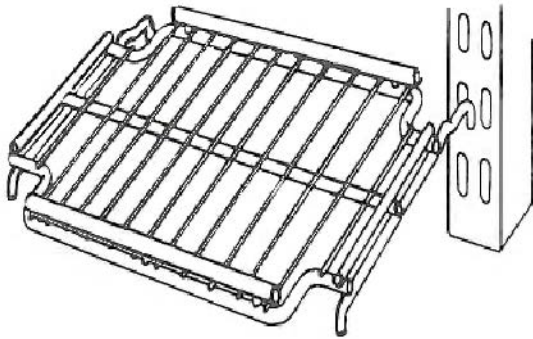
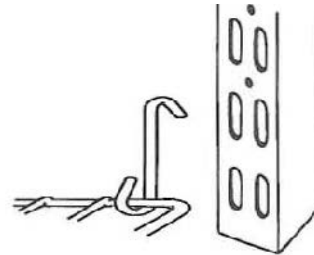

Figure 15
Figure 16
2. Milkmaster shelving installs the same way as a can and bottle dispenser, except that Milkmaster has its own snap-in place rear product stop. Refer to Figure 15 and Figure 16 for rear